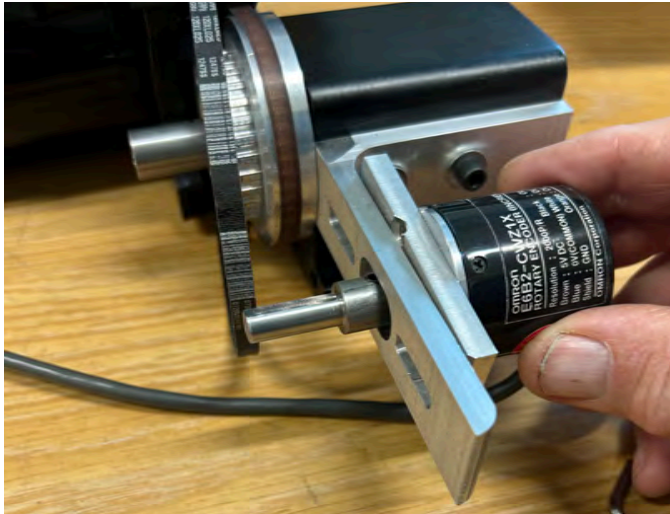

FIGURE 22
6. Insert the shaft adapter through the center hole in the mounting bracket and position the mounting plate with the mounting screw holes aligned with the adjustment slots (see Figure 22).